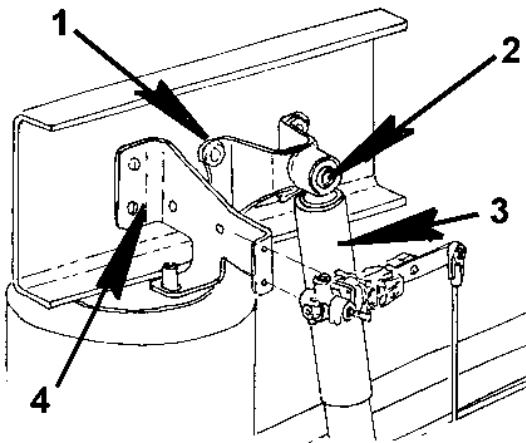

Figure 20 Upper Shock Absorber Mounting Bolts
8. Remove the upper shock absorber mounting bolt from upper shock mounting bracket (Figure 20).